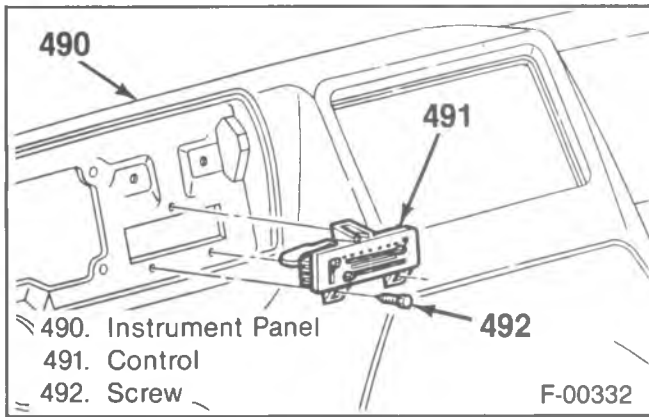

Figure 56—Control Assembly Removal
↔ Remove or Disconnect (Figures 56, 57, 58 and 59)
4. Control (491) (figure 56).
↔ Install or Connect (Figures 56, 57, 58 and 59)
🔑 Adjust (Figure 56)
↔ Remove or Disconnect (Figures 56, 57, 58 and 60)